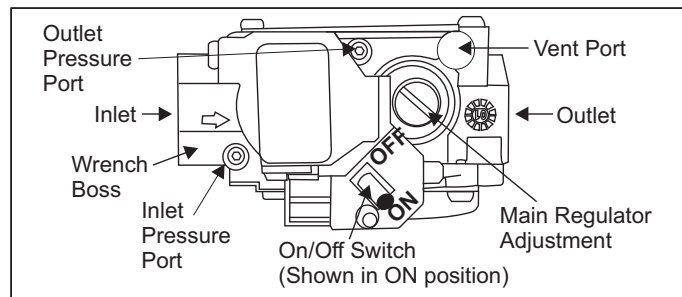

FIGURE 7: Single Stage Gas Valve
3. Check that the ON/OFF switch on the gas valve is turned to the ON position. Refer to Figures 7, 8 or 9.